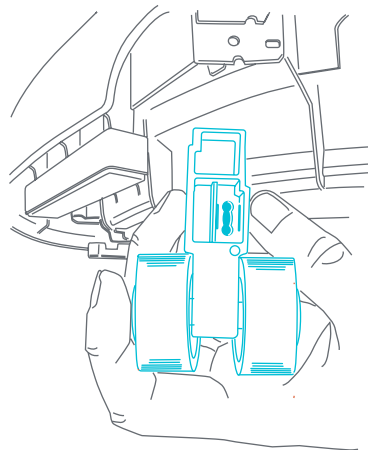

Fig. 15b
- Release the wheel from the housing (Fig. 15b). Repeat for the other sides.